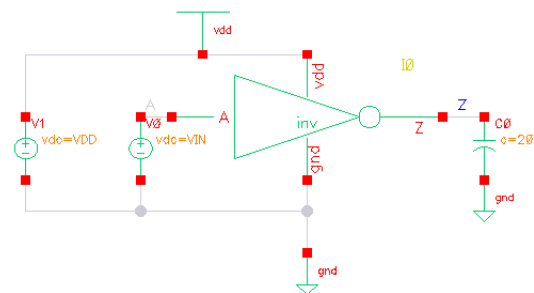

Figure 1.19: Inverter testbench schematic.
8. Your testbench should look like Fig. 1.19.